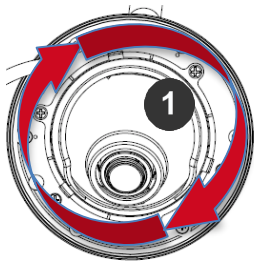

Figure 19: Make adjustments and re-tighten the screws
- 4. Adjust the pan, tilt, and z-axis as required and re-tighten the screws (Figure 19).